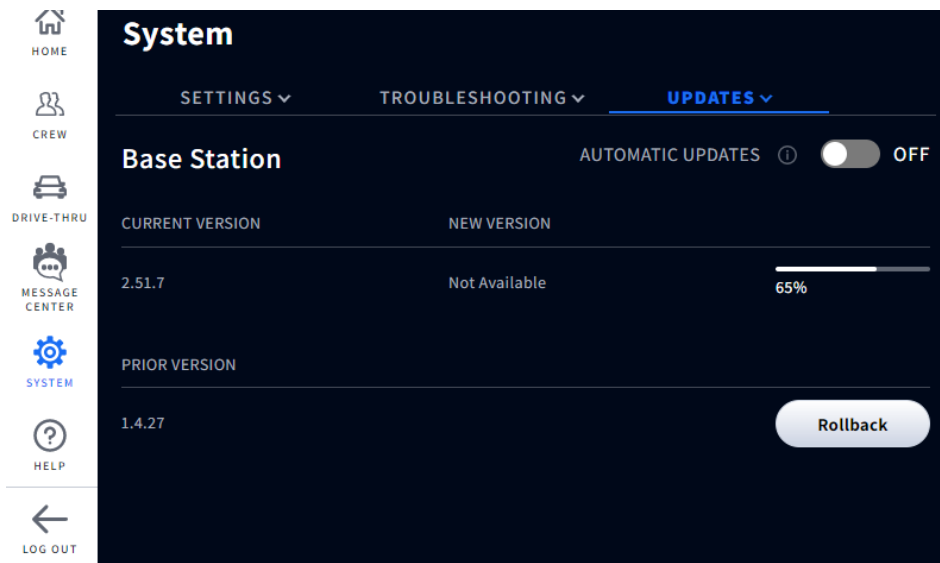

Fig. 6.7
- The update begins and provides a progress status via the progress bar, Fig. 6.7 shows the update is 65% complete. The red exclamation mark disappears when the update is initiated.